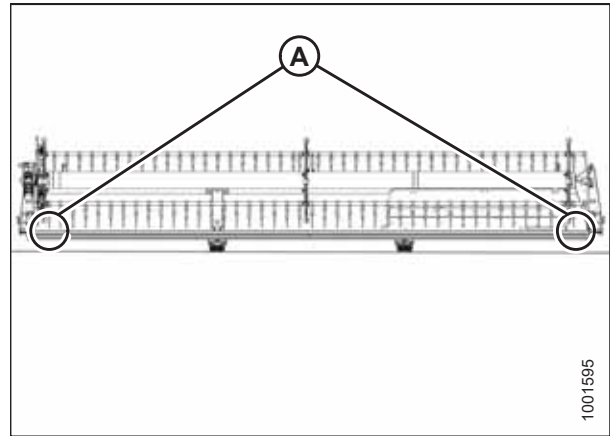

Figure 5.37: Single-Reel Measurement Locations
- Figure 5.37, page 142 – single reel